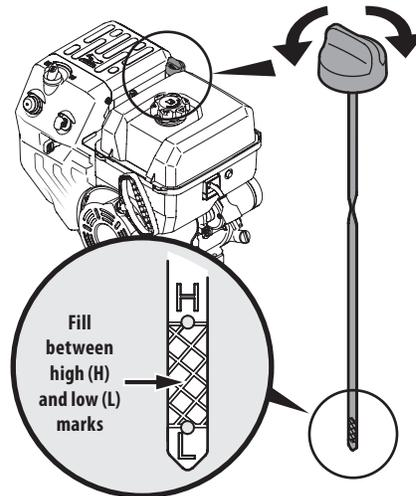

Figure 3-2
- Keep oil level between "H" and "L" marks on dipstick. See "Figure 3-2".
1. Remove the oil filler cap/dipstick and wipe the dipstick clean. See "Figure 3-2".
3. Remove the oil filler cap/dipstick. If the level is low, slowly add oil until oil level registers between high (H) and low (L), "Figure 3-2".
4. Loosen and remove the oil fill cap dipstick from the oil filler tube. Note the oil level, if oil reading on the dipstick is below the "L" mark, slowly add oil to reach the "FULL" level. See "Figure 3-2".